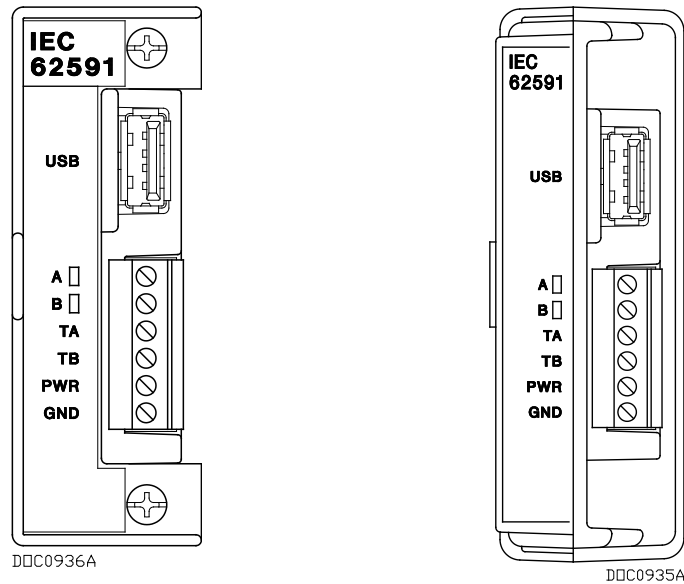

Figure 1-2. IEC 62591 Wireless Interface Module
Functionally, there is no difference between the module for the FB107 and the module for the ROC800. Each module uses the same printed circuit board (PCB) but has a slightly different plastic casing. See *Figure 1-2*; the ROC800 module is on the left and the FB107 module is on the right.
4. Insert the module through the module slot in the front of the ROC800 or EXP housing. Make sure that the label on the front of the module faces right side up (see *Figure 1-2*). Gently slide the module in place until it contacts properly with the connectors on the backplane.